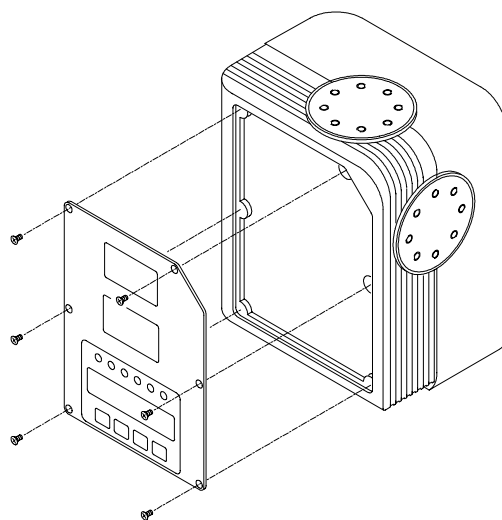

Figure 2.2 - Opening the DS8100
Refer to the following instructions and Figure 2.2 when opening the reader:
3. Carefully remove the panel as shown in Figure 2.2.